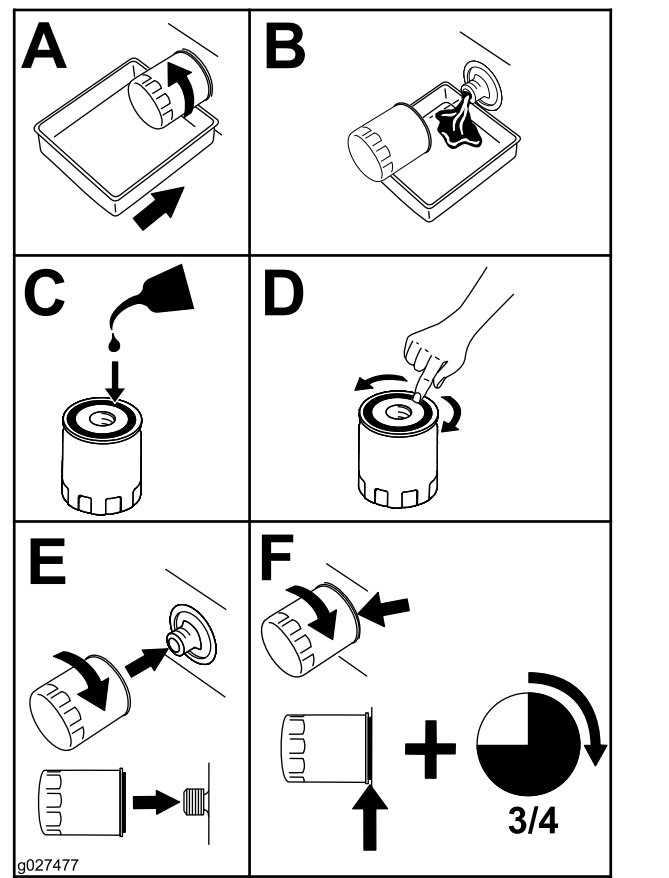

Figure 39
4. Replace the oil filter (Figure 39).